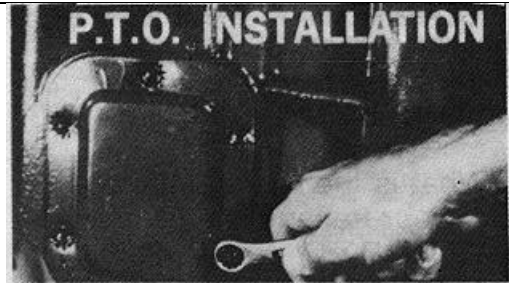

Fig. 1
1. Drain the oil from the transmission and remove the P.T.O. aperture cover plate. (See Fig.1.)